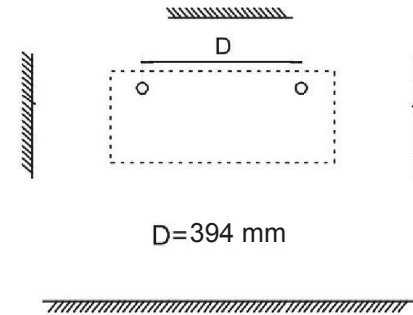

FIGURE 2
2. Drill two holes on the wall that are suitably sized for inserting the  $\varnothing 8$  mm Fischer screw plugs. (figure 2)